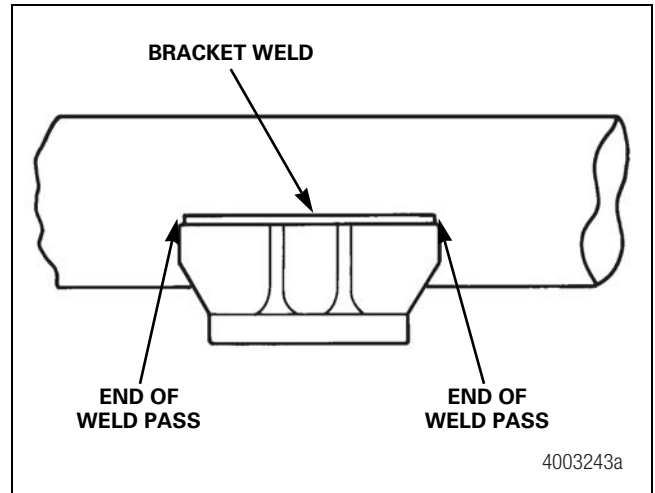

Figure 7.13
- Axles are more likely to crack at the end of the bracket attachment welds. It is critical to avoid welding imperfections such as craters, undercuts and poor fusion at these locations. Some methods of avoiding these imperfections include using correct welding parameters, starting and stopping the arc a short distance away from the ends of the weld pass and maintaining correct arc position and length. Figure 7.13.